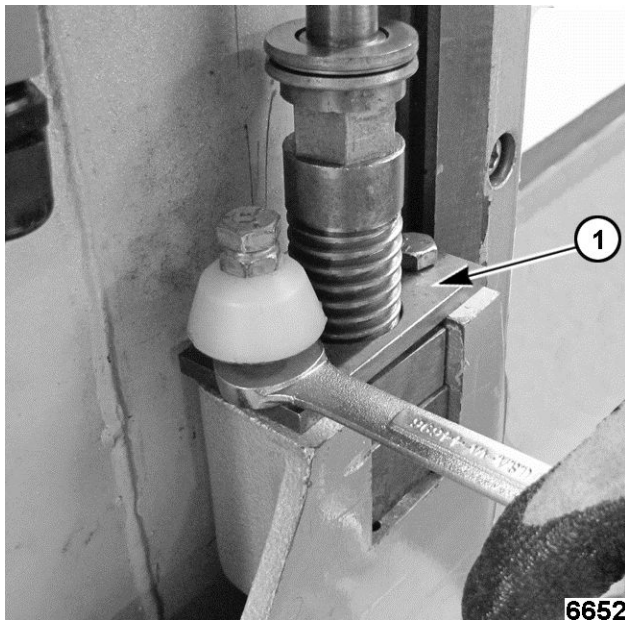

Fig. 143
6. Remove the bolts on the lift nut retainer (1, Fig. 143).